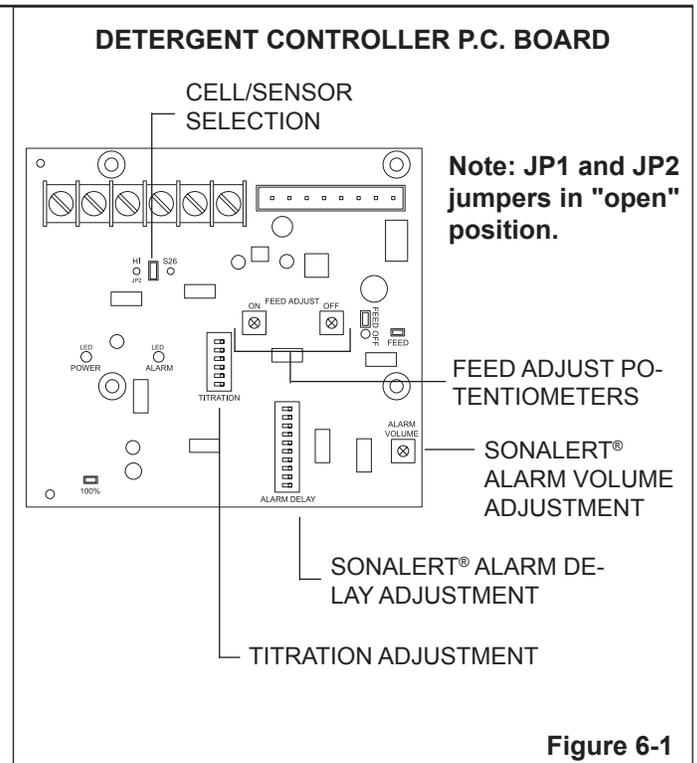

Figure 6-1
These potentiometers determine the duration of the "on-off" pulses. This allows for minimum overshoot dependent upon the detergent dispensing rate, refer to Figure 6-1.
3. When the Sonalert® is activated, set the volume using the identified potentiometer - clockwise to increase the volume, refer to Figure 6-1.
1. Set the alarm delay by using the 10 position dip switch, refer to Figure 6-1.